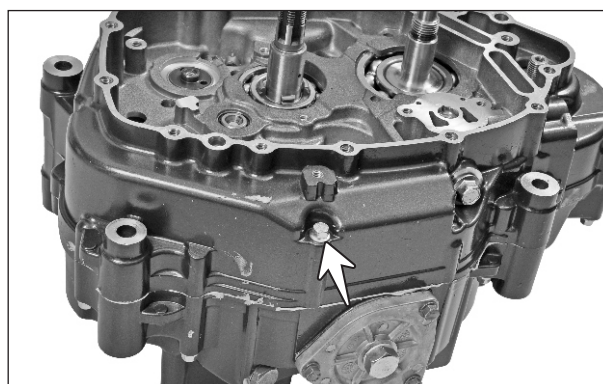

Fig. 3.139
- Remove the hexagonal flange bolt (M6x55 - 1 no.) from the crankcase assembly mounting (RH side). (Fig. 3.139)